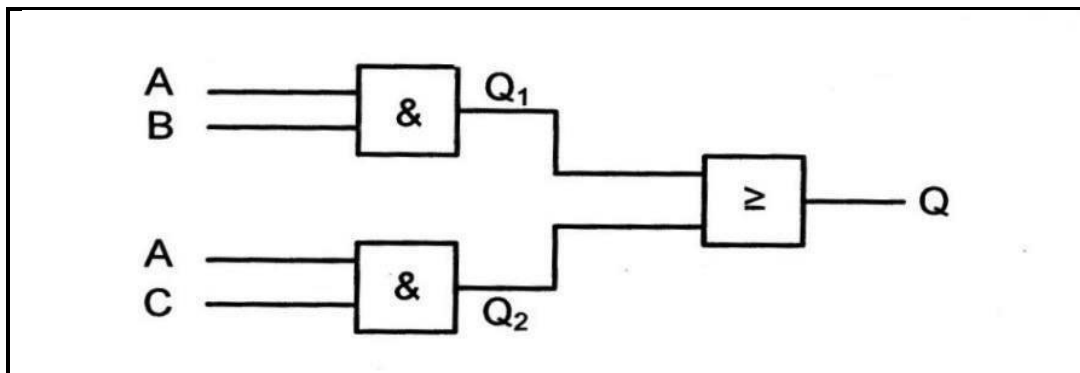

FIGURE 3.7
3.7 Refer to FIGURE 3.7 below and answer the questions that follow.